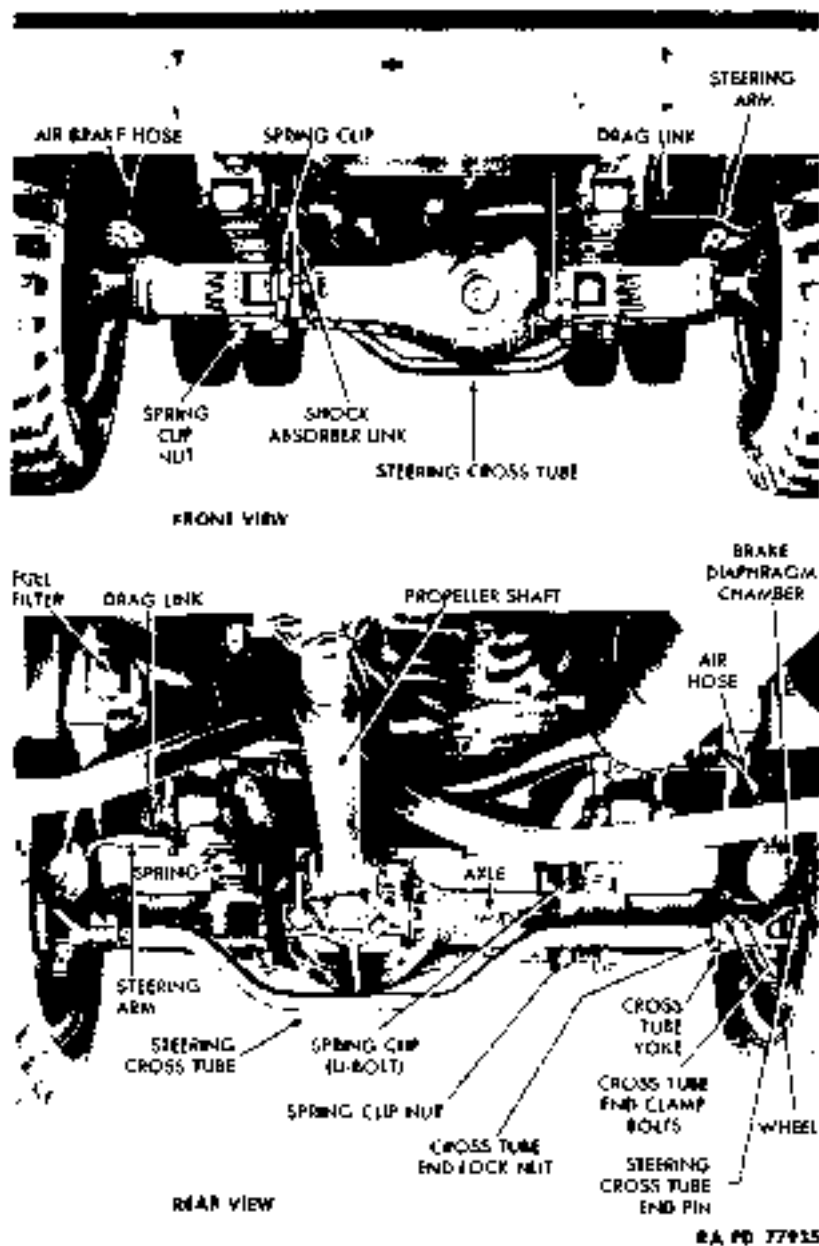

Figure 58 — Front Axle Installed
a. **Description** (fig. 58). The front axle is attached to frame through front springs. A gear carrier unit mounted on top of axle off center, permits propeller shaft to pass engine on left side and gives full road clearance. The axle housing is jointed at outer ends to permit full turning radius. A three-piece steering cross tube with threaded ends controls steering synchronization and toe-in. Different thread pitches on each end of cross tube permit close adjustment of toe-in.
b. **Toe-in Adjustment** (fig. 58). Remove the cotter pin, lock nut, and steering cross tube end pin which secure cross tube to wheel assembly. Loosen the two cross tube end clamp bolt nuts and bolts, and turn yoke end to increase or decrease toe-in. Left-hand tube end has 12 threads per inch, right-hand end 16 threads per inch. When toe-in of  $\frac{3}{16}$  inch to  $\frac{5}{16}$  inch is attained, position tube end to wheel assembly. Install tube end pin, and secure with the end pin nut and cotter pin. Tighten cross tube end lock nut, then tighten tube end clamp bolts and bolt nuts.
**106. REMOVAL** (fig. 58).
- n. **Remove Steering Cross Tube** (fig. 58). Remove the two cotter pins, tube end pin nuts, and tube end pins which secure cross tube to wheel assemblies. Remove cross tube.
### 107. INSTALLATION (fig. 58).
- b. **Install Steering Cross Tube** (fig. 58). Position tube to wheel assemblies, and install tube end pin at both ends. Secure with the two end pin nuts and cotter pins.